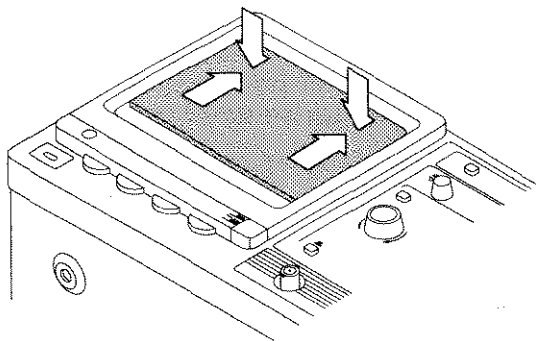

Figure 12: Bezel Replacement (Step 3)
3. Press firmly with your thumbs on the top portion of the bezel and slide it upwards. Refer to Figure 12.